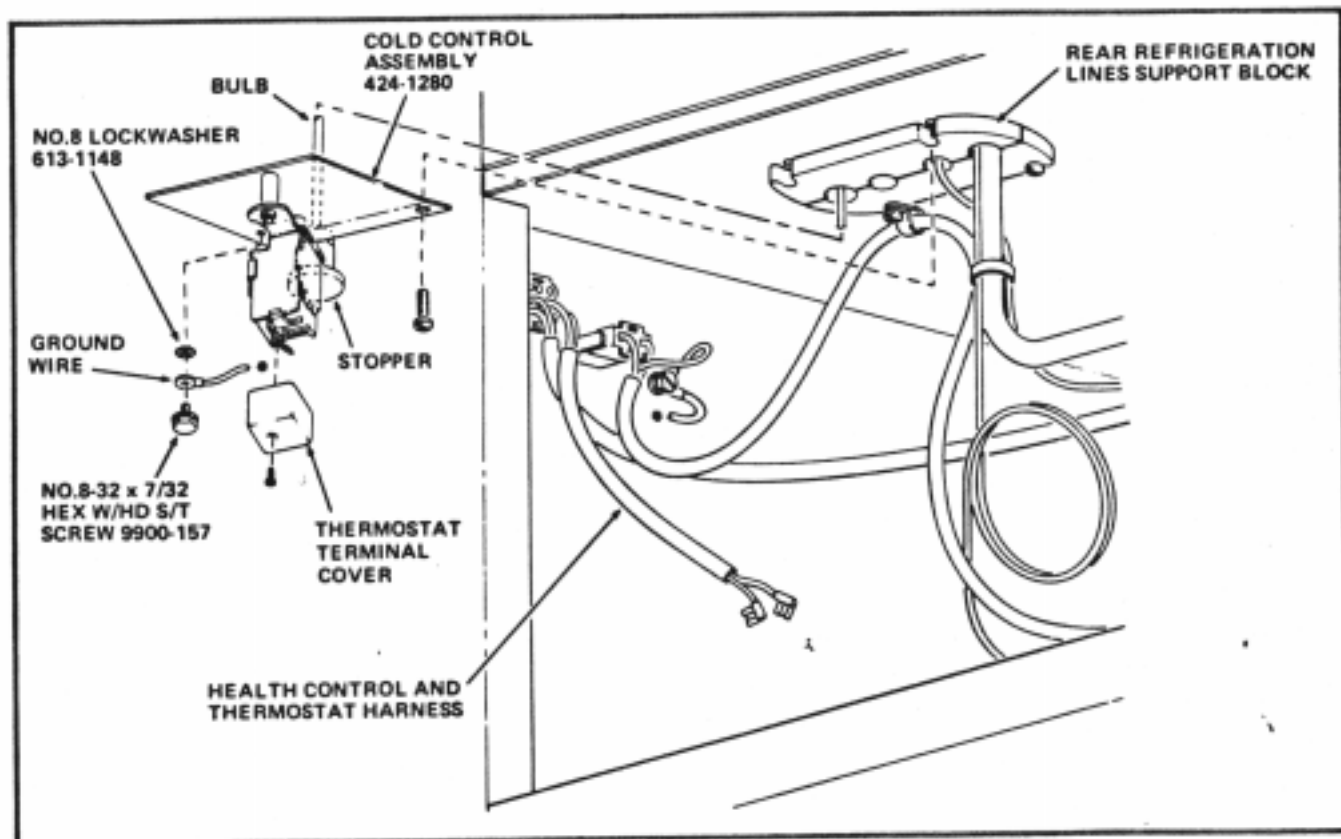

FIGURE 4
4. Remove the two Screws which attach the rear Refrigeration Lines Support Block to the Cabinet. See Figure 4.
5. Insert the bulb of the Cold Control Assembly included in the kit, part number 424-1280, through the opening between the Refrigeration Lines Support Blocks and into the Heat Exchanger Compartment. Press the Stopper securely into the opening. See Figure 4.
6. Attach the Mounting Bracket of the Cold Control Assembly to the rear Refrigeration Lines Support Block with the two Screws removed in Step B-4. See Figure 4.
7. Connect the two flag terminals of the Health Control and Thermostat Harness to the Thermostat. See Figure 4.
8. Reattach the Terminal Cover removed in Step B-1 to the Thermostat. See Figure 4.
9. Attach the Groundwire to the Mounting Bracket with the Lockwasher, part number 613-1148, and the Screw, part number 9900-157, both parts included in the kit. See Figure 4.